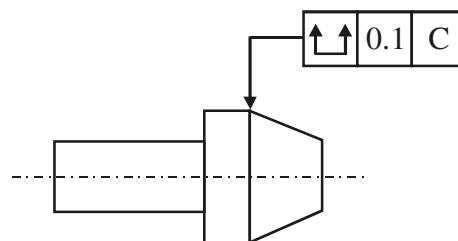

Fig. 3
- (B) Attempt any TWO of the following 8
- (a) Draw the Fig. 3 and state the meaning of each term.